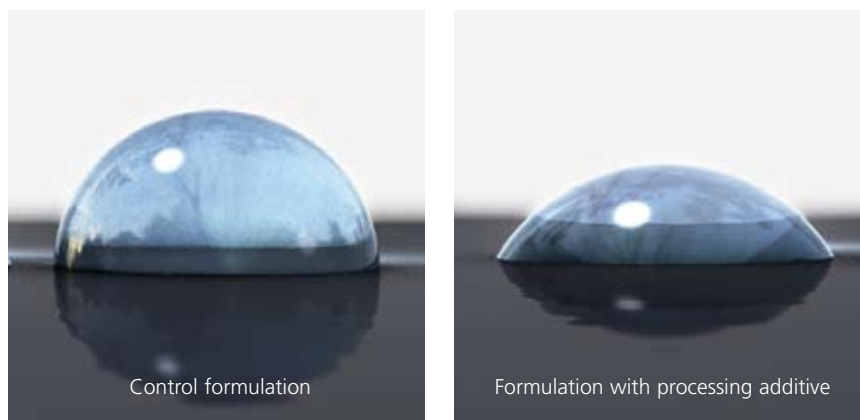

figure 11
- Wetting of the molded part depends primarily upon the surface tension of the liquid and the critical surface tension of the surface to be wetted. As a general rule, the surface tension of the liquid must be lower than or at least equal to the surface tension of the substrate. Improper wetting is to be expected when the surface tension of the liquid is higher than the surface tension of the substrate. To demonstrate the effect, contact angle measurements can be illustrative (figure 11). Equilibrium geometry of the liquid drop shows the interactions between the surface and the liquid. Measured contact angles can then be used in conjunction with theories published in scientific literature to determine the surface free energy of a solid, characterizing solid surfaces regarding wettability or adhesion properties.